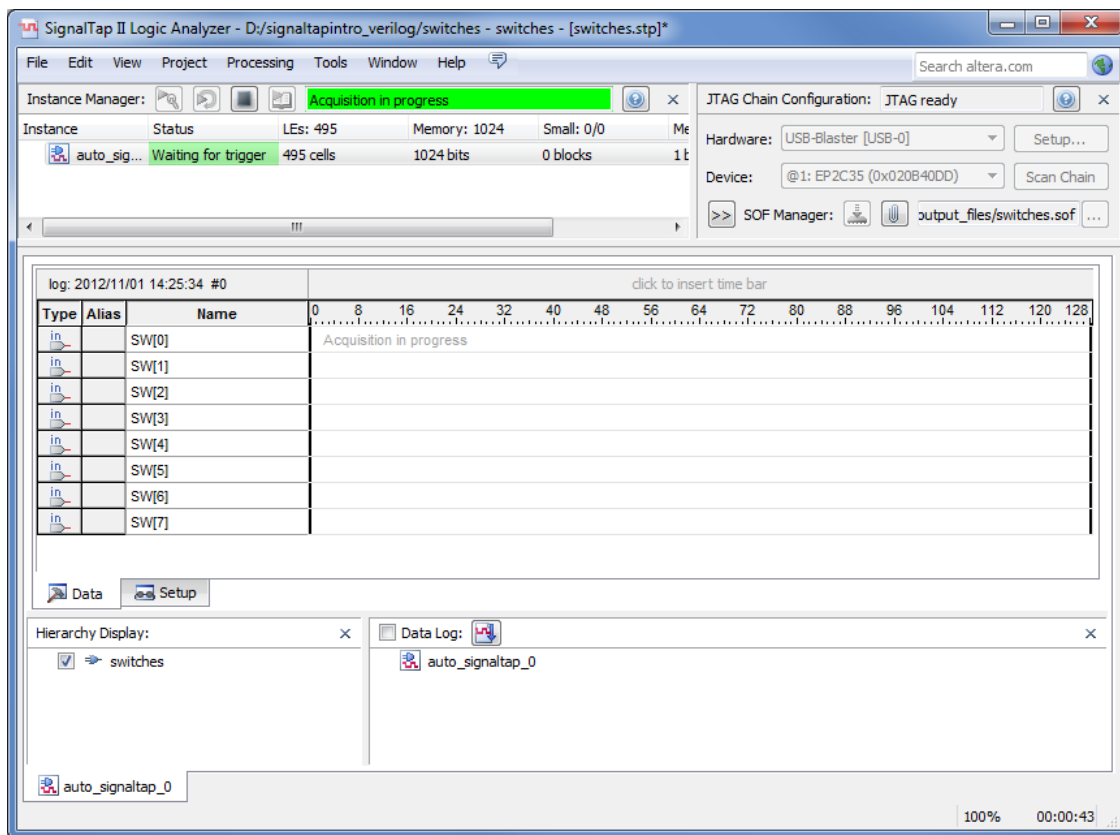

Figure 12. SignalTap II window on a DE-series board after Run Analysis has been clicked.
2. In the SignalTap window, select **Processing > Run Analysis** or click the  icon. Then, click on the Data tab of the SignalTap II Window. You should get a screen similar to Figure 12. Note that the status column of the SignalTap II Instance Manager pane says "Waiting for trigger." This is because the trigger condition (Switch 0 being high) has not yet been met. (This is of course if Switch 0 is actually low as instructed in the previous step. If it is not, set it to low and then click Run Analysis again).